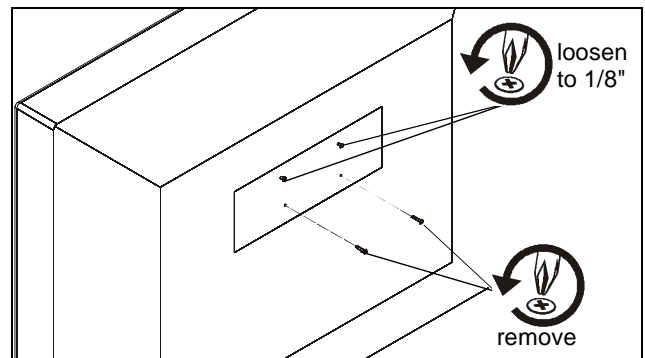

Figure 4
1. Loosen the top two mounting screws on the back of the display to protrude 1/8" and remove the bottom two screws. (See Figure 4)